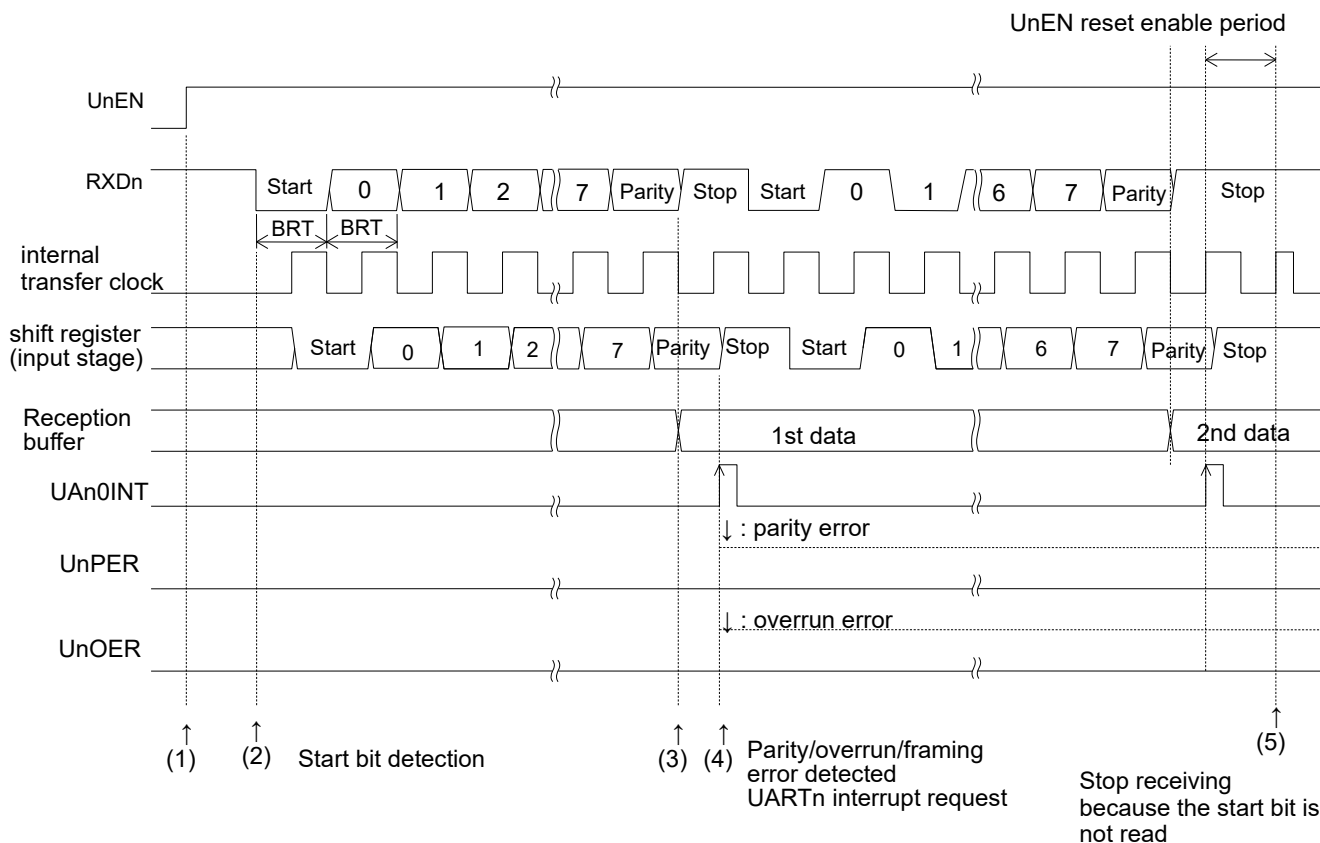

Figure 14-6 Reception Timing
Figure 14-6 shows the operation timing for reception.
When a reception starts, this module checks the data sent to the input pin RXD and waits for the arrival of a start bit. When detecting a start bit ((2) in Figure 14-6), It generates the internal transfer clock of the baud rate set with the start bit detect point as a reference and performs reception operation.
The shift register shifts in the data input to RXD on the rising edge of the internal transfer clock. The data and parity bit are shifted into the shift register and 5- to 8- bit received data is transferred to the reception buffer (UAnBUF0) concurrently with the falling edge of the internal transfer clock of (3) in Figure 14-6.
This module requests a UART reception interrupt on the rising edge of the internal transfer clock subsequent to the internal transfer clock by which the received data was fetched ((4) in Figure 14-6) and checks for a stop bit error and a parity bit error. When an error is detected, this module sets the corresponding bit of the UART n status register (UAnSTAT) to "1".
As shown in Figure 14-6, the rise of the internal transfer clock is set so that it may fall into the middle of the bit interval of the received data.
A reception continues until the UnEN bit is reset to "0" by the program. When the UnEN bit is reset to "0" during reception, the received data may be destroyed. When the UnEN bit is reset to "0" during the "UnEN reset enable period" in Figure 14-6, the received data is protected.